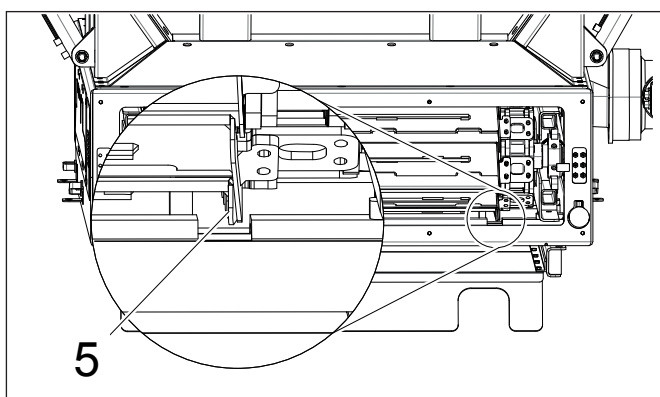

Figure 6.3 - Apron Conveyor shoe alignment
3. If the Apron shoe is close to or touching cross member Item 5 Figure 6.3 Tensioning is required.
6. Adjust RH + LH until 10-15mm clearance between apron shoe and cross member see Figure 6.3.